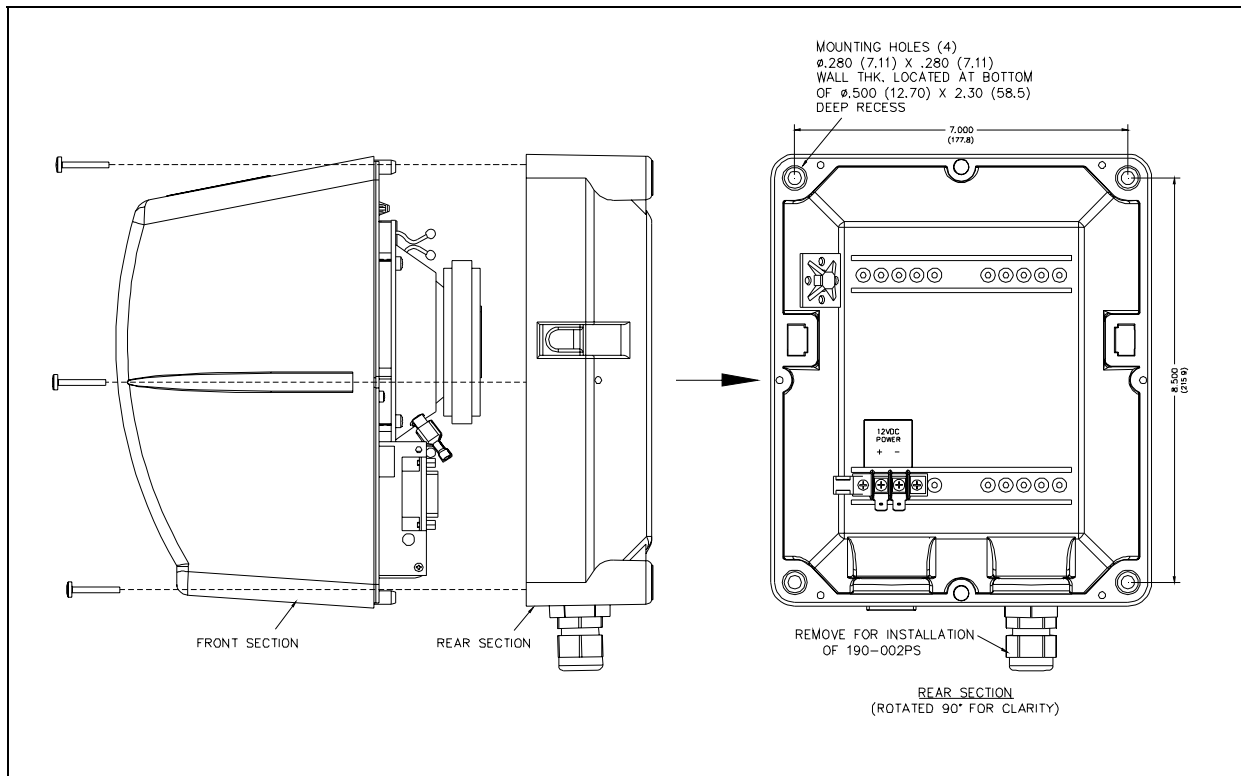

Figure 4. Mounting Detail
1. Untwist the two nylon ties used for wire management. Unplug the quick-connect fastons from the speaker and unplug the 11-point connector from the PCBA. The front section can now be completely separated from the rear section. See Figure 4.
2. Mount the rear section to any flat surface using 1/4-inch customer-provided screws in each of the four 0.280-inch mounting holes in the corners of the rear section. Refer to Figure 4 for mounting hole pattern dimensions. A Model 231 Pole Mounting Kit can also be used for pole or surface mounting. Two customer-provided mounting screws are required to surface mount this kit. The kit includes four mounting screws needed to secure the speaker to the kit's bracket.
1. Disconnect the connecting cable from the RF Module. Refer to Figure 4.